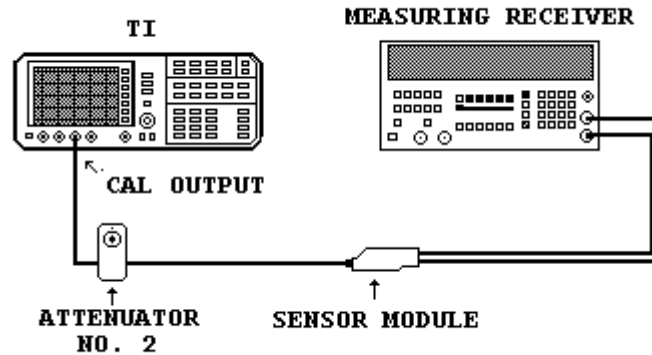

Figure 6. Marker amplitude accuracy test - equipment setup.
(5) Connect equipment as shown in figure 6.